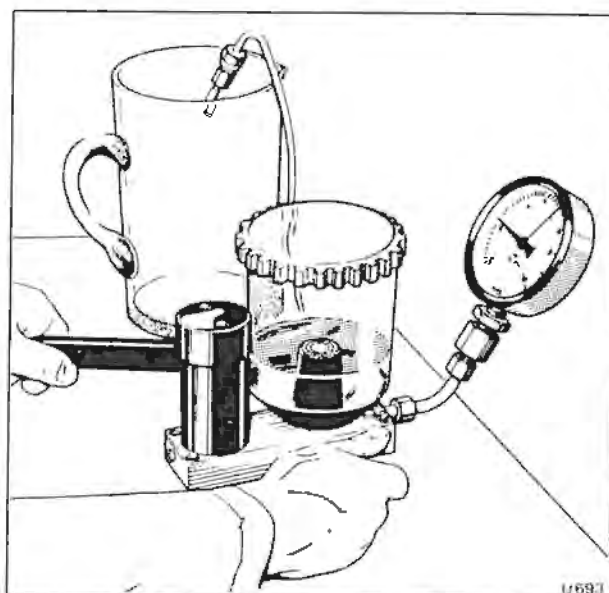

Fig. B3-31 Testing an injector
2. Connect one injector to the test equipment RH 9614 (Bosch Number KDJE 7452). Refer to figure B3-31.